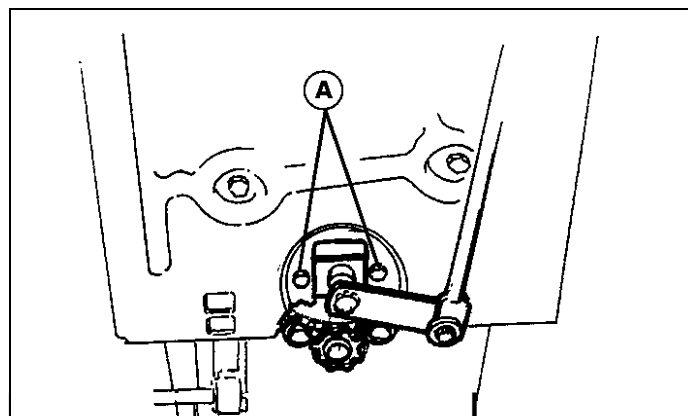

Figure 23. Steering Gear Adjustment
1. See figure 23. Loosen the two capscrews and adjust the bracket so the gear teeth are closely meshed.